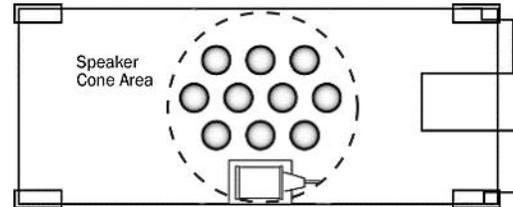

Figure 8: For speakers mounted on the tender floor, drill holes below the speaker to allow the sound to escape.
2. In the pattern shown in Figure 8, drill 10-15 holes to provide an opening for the sound to escape; each hole should measure roughly 1/4" in diameter.